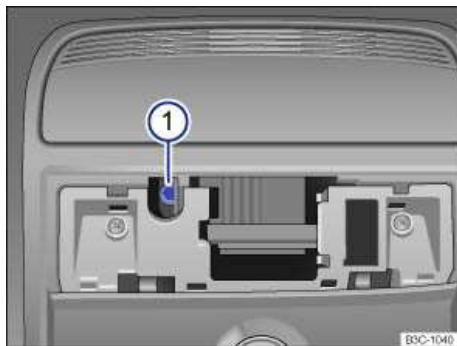

Fig. 155 Hexagonal head screw for closing the power sunroof.
2. Insert a commercially available 1/6 in. (4 mm) Allen wrench⁶ into the hexagonal head screw ⇒ fig. 155 \(1\).